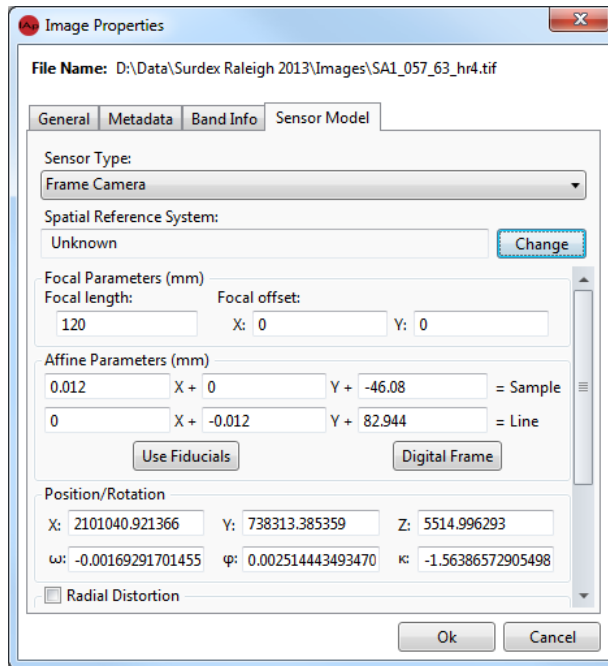

Figure 10. Frame camera sensor model configuration.
The Frame Camera sensor model consists of two primary sets of parameters, defining the interior orientation (IO) and exterior orientation (EO) parameters of the sensor as the image was acquired (Figure 10). For the internal parameters, the user must have knowledge of the camera’s focal length and focal offset, and the internal affine representation of the sensor. If using a scanned film image, you will need to also have the sensor’s fiducial locations. These are typically found in a camera calibration report. Digital back images do not have fiducials, and their affine parameters are easily computed from the image dimensions and knowledge of either the sensor size, or the pixel size on the sensor. In addition, radial distortion parameters can be provided. Exterior orientation parameters define the camera’s position and orientation at the time of acquisition, and are often provided in a text file containing the EO parameters of all the images acquired during a single flight/project. Each of the parameters for the Frame Camera sensor model can be manually entered by the user.